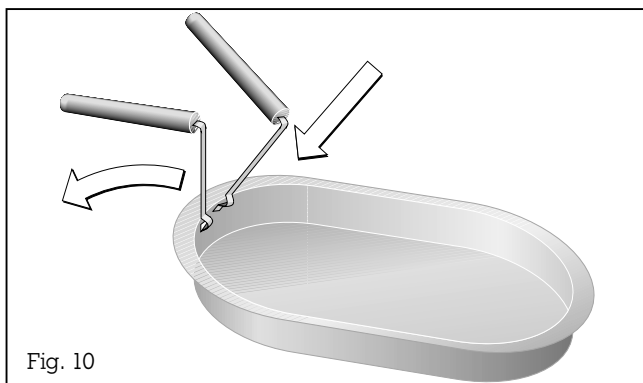

Fig. 10
- Lift the handle up (see Fig. 10).